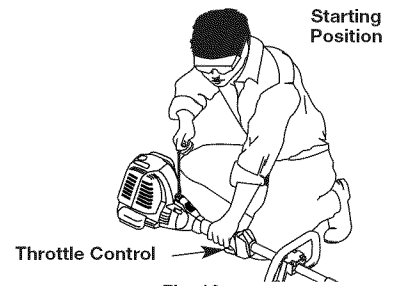

Fig. 12
WARNING: Avoid accidental starting. Make sure to be in the starting position when pulling the starter rope (Fig. 12). To avoid serious injury, the operator and unit must be in a stable position while starting.
4. With the unit in the starting position, **do not squeeze the throttle control** (Fig. 12). Pull the starter rope in a controlled motion until unit starts.
4. With the unit in the starting position (Fig. 12). Place the Plug-In Power Start or Power Bit Start into the back of the unit. Refer to Operation section of the Plug-In Power Start or Power Bit Start operator's manual.
5. **Do Not squeeze the throttle control**, press and hold the Plug-In Power Start or drill's ON (I) button for 2 second intervals until unit starts.